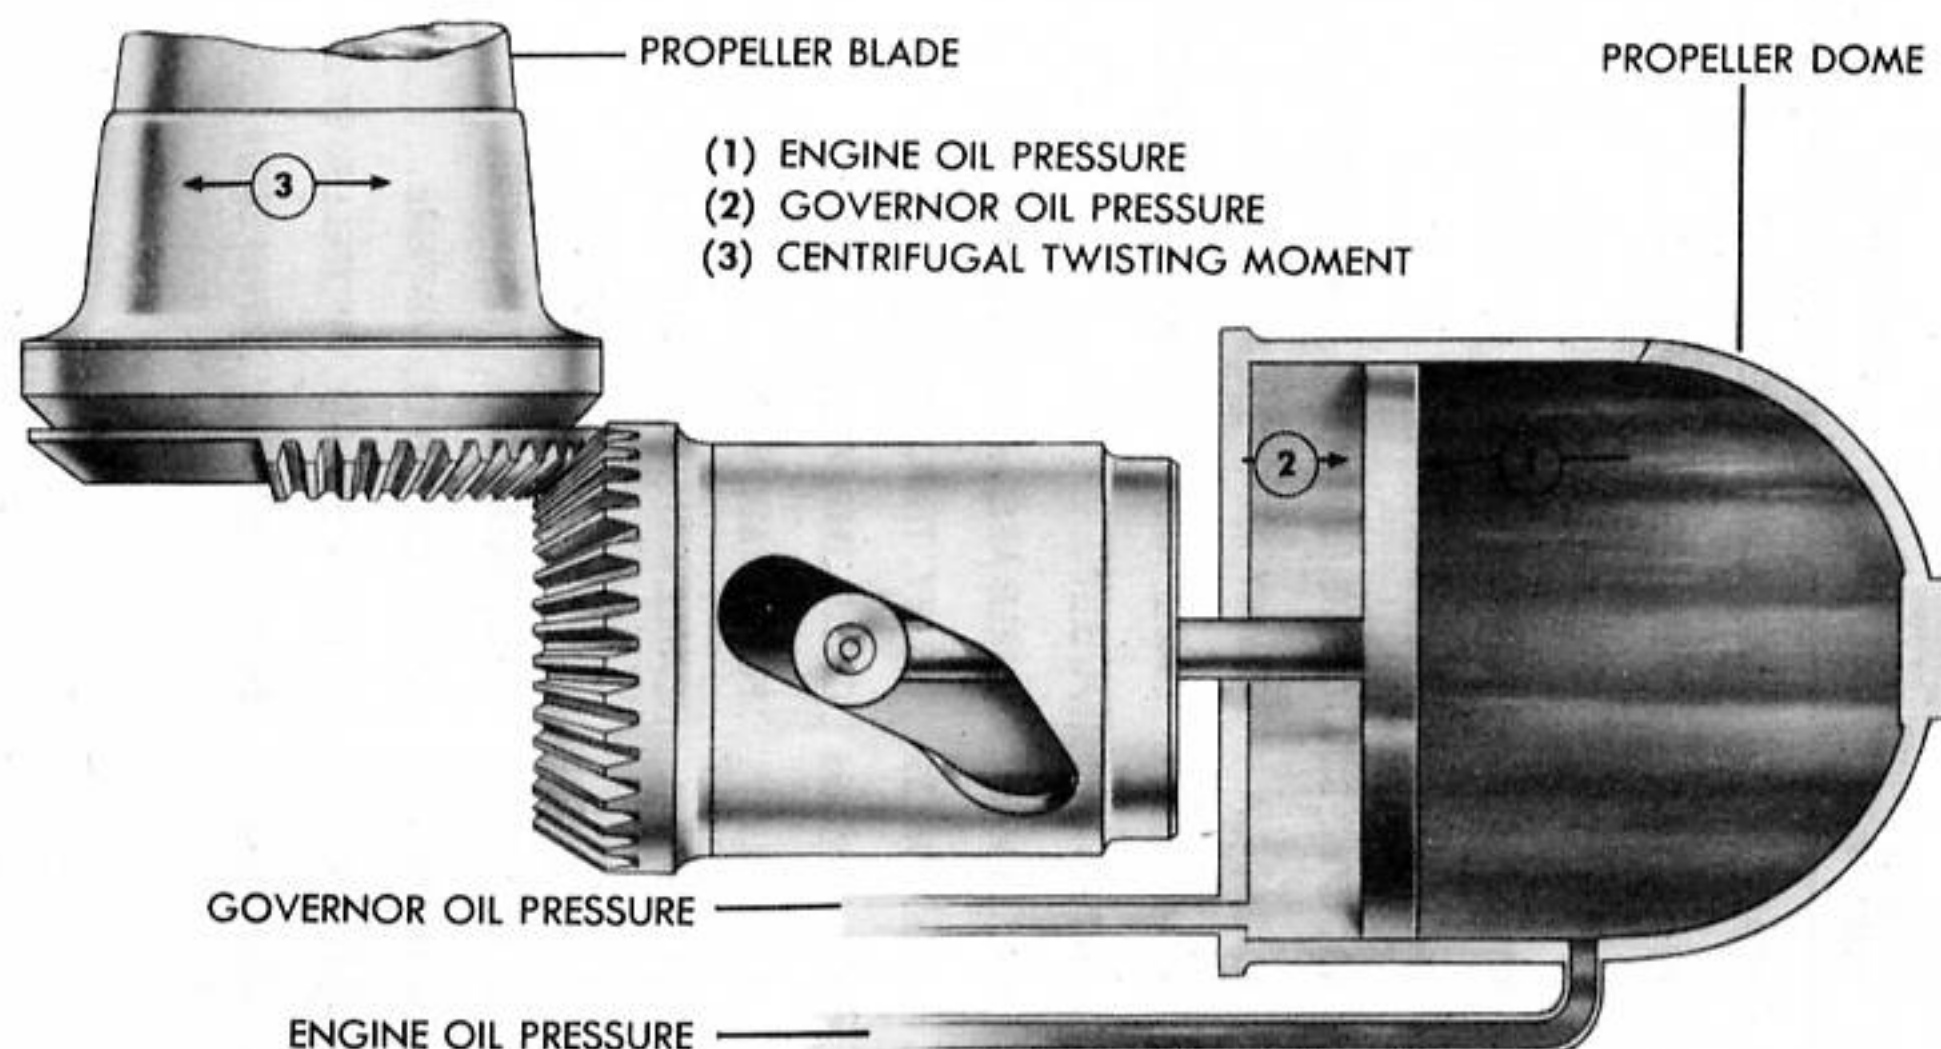

Figure 114 - PROPELLER CONTROL FORCES
(3) **PROPELLER GOVERNOR.** (See figure 114.) - Each propeller is controlled by a self-contained governor mounted on the engine nose case. The governors are the Hamilton Standard Hydromatic double capacity type. They maintain constant speed of the hydromatic propeller by causing changes in the propeller blade angle to meet changed conditions of altitude, throttle setting, etc. The change of blade angle is accomplished by regulating the flow of oil to the propeller. The unit consists of a gear type booster pump which boosts the engine oil from engine pressure to higher pressures required to operate the propeller pitch changing mechanism. A pilot valve controls the flow of oil to and from the propeller, and is actuated by the same spring-balanced flyballs. The minimum limit of the governing range of the unit is set by the low rpm adjusting screw in the speed adjustment rack inside the governor head. A transfer valve has been